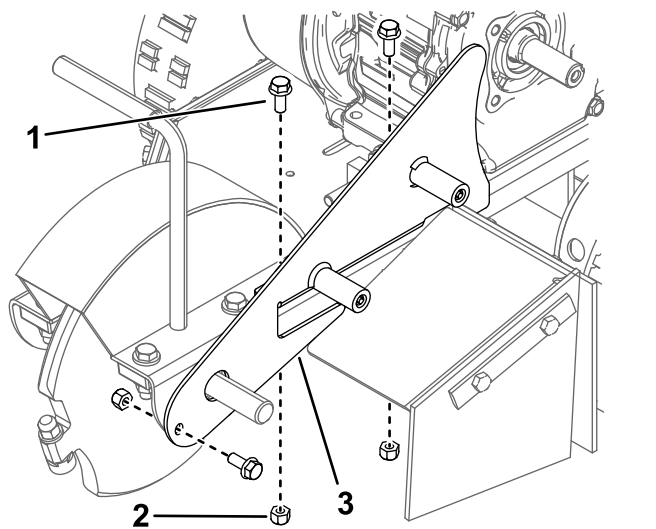

Figure 5
7. Remove the guard plate (Figure 5).